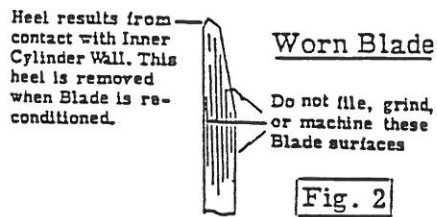
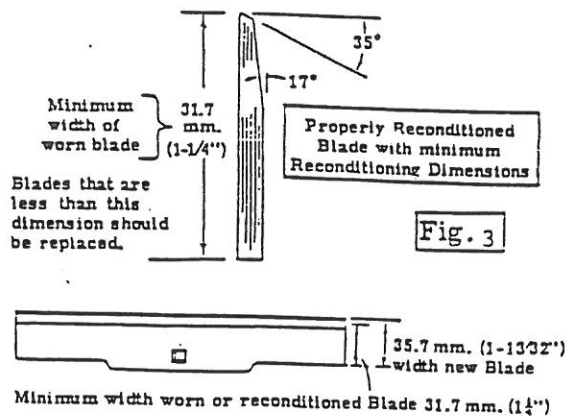

Fig. 2
Fig. 3
rounded, or nicked (see fig. 2). Remove the blades for reconditioning monthly, and replace with a reconditioned set of blades. the length of time which blades remain in good condition will dependlargely on the type of product being processed. Experience will determine frequency of reconditioning.
- Blades that have a heel over 0.75 mm (1/32 inch) should be reconditioned (see fig. 2). After the blade has been repeatedly filed or reconditioned down to 31.7 mm (1-1/4") width (see fig. 3), it should be replaced with a new blade. To permit sufficient time for good reconditioning, a spare set of blades should always be kept available.